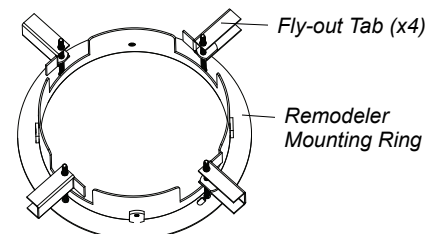

Figure 10: Remodeler Mounting Ring
- Step 3. Position remodeler mounting ring (**Figure 10**) through hole and turn screws so fly-out tabs swing away from ring. Tighten each tab until the remodeler mounting ring is secured to ceiling.